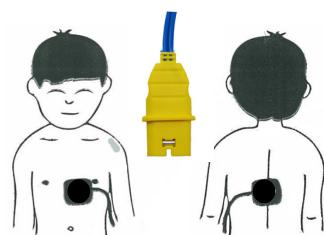

Fig. 3.5 Application sites for children less than 25 kg
1. Clean and dry the application points for the electrodes (see Fig. 3.5 Application sites for children less than 25 kg). Only clean the skin by vigorously rubbing it with a dry cloth.
2. Apply one electrode on the left of the right nipple as illustrated in Fig. 3.5 Application sites for children less than 25 kg
3. Apply the second electrode on the back on the same level as the chest electrode as illustrated in Fig. 3.5 Application sites for children less than 25 kg.